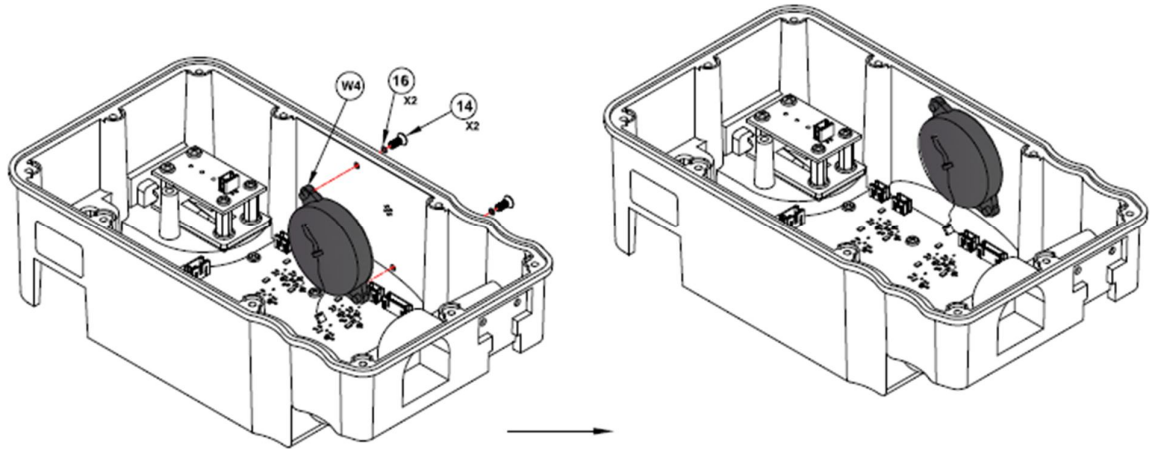

Figure 13: Re-assembly of Buzzer
- c) With the screw driver, unscrew the 02 screws (marked as 12) in Figure 13.
- b) Align the holes of buzzer assembly with the mounting holes on the Top assembly unit as shown in Figure 13.